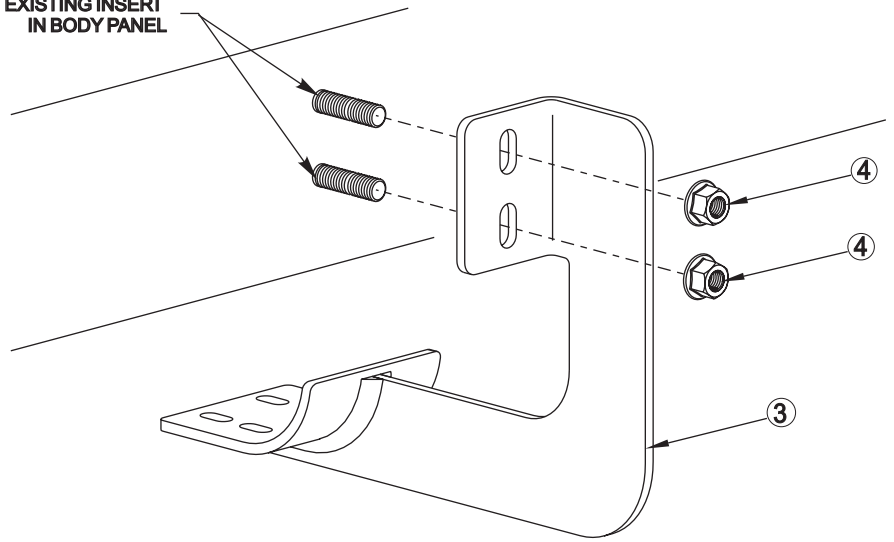

FIGURE 1
- STEP 2. Install brackets as shown. Hand tighten. **SEE FIGURE 1.**